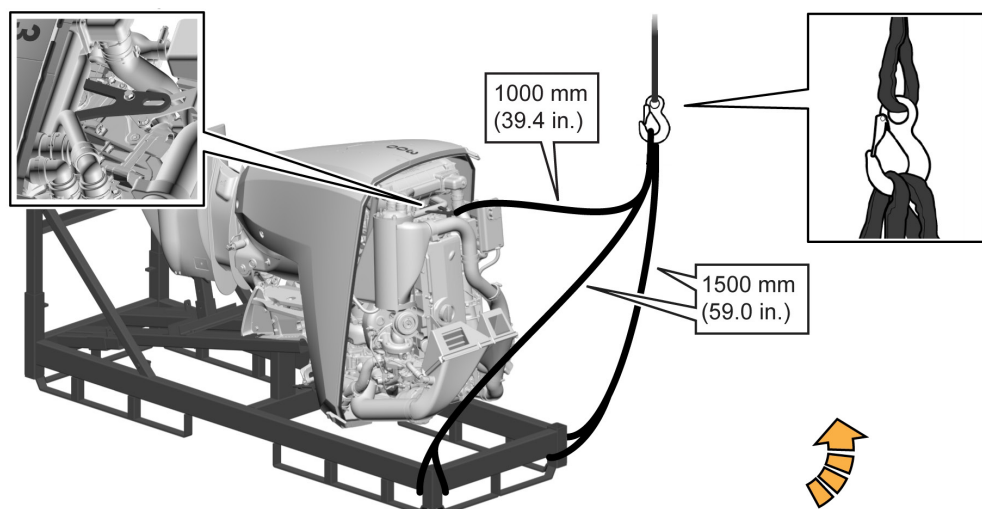

Fig. 10 Lifting
3. Mount certified shackles and lifting straps to the engine lifting eyes, ensuring the straps are long enough to avoid interference with the air filter box and charge air pipe. See Fig 10.